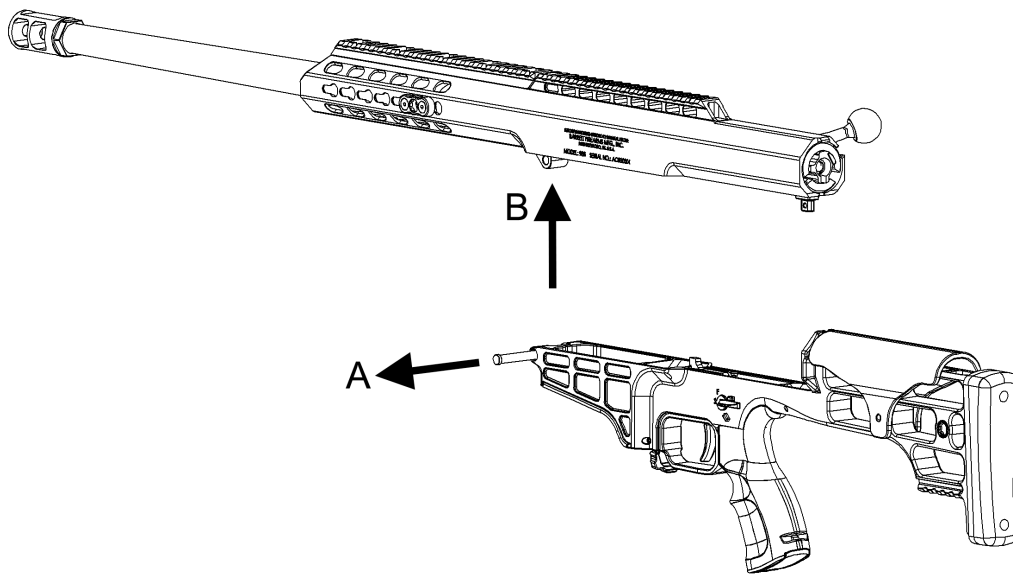

Figure 11.
5. Disengage the front assembly pin to separate the receivers. The pin is captured and will not fully remove. (Figure 11)